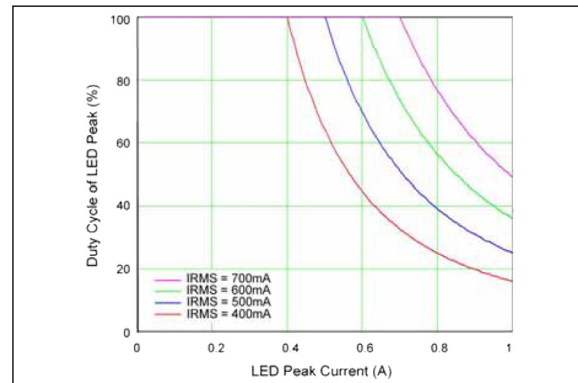

FIGURE 6-2: Duty Cycle vs. Peak Current for Fixed RMS Current.
The graph in Figure 6-2 shows the peak LED current which can be pulsed at a given duty cycle (DC) to stay within SOA limits of 400 mA to 700 mA.
- Now looking at the curve in Figure 6-2, using the next lower value of 500 mA RMS current, one can see that the 850 mA peak can be driven at a duty cycle of ~33% (or 1 second out of every 3 seconds). That is well within our target of 300 ms.